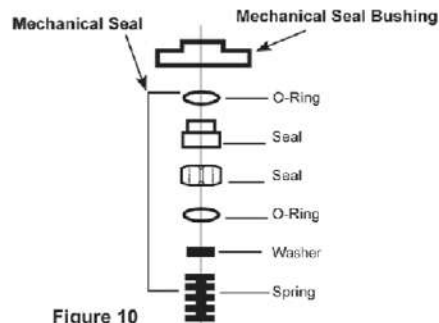

Figure 10
2.The mechanical seal will be exposed in the lower portion of the mechanical seal bushing (see Figure 10).